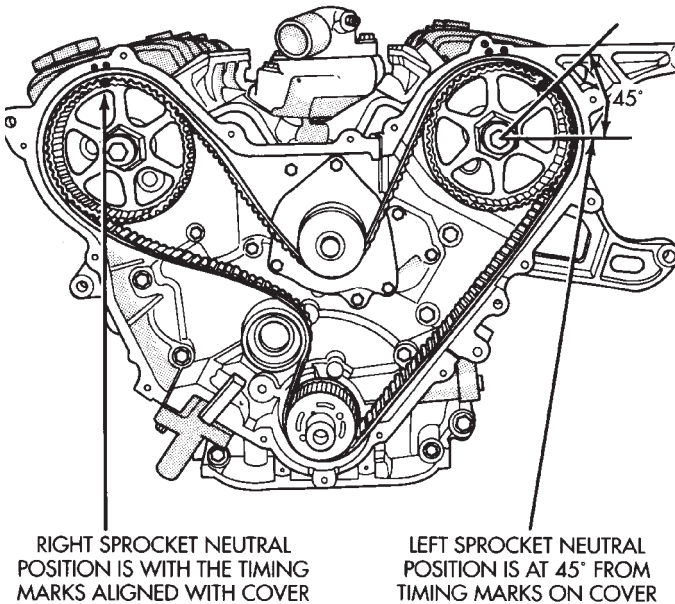

Fig. 55 Camshaft Sprockets Neutral Position
- (1) Rotate camshafts to the position shown in (Fig. 55). With the camshafts in these positions the lobes are in a neutral position (no load to the valve). This